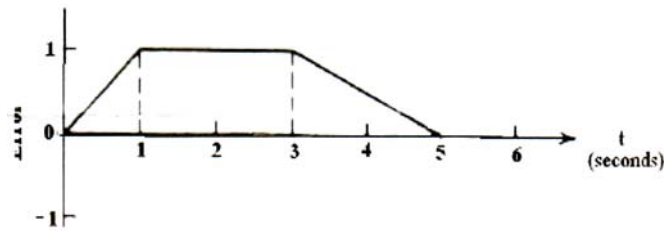

Figure 3
- Q9) a)** Figure 3 shows an error time graph. Sketch the PID controller (series form) output w.r.t. time. Assume $K_p=10$, $K_i = 2$, $K_d = 0.5$ and $P_o=0$ i.e the controller output is zero when the error is zero. [10]